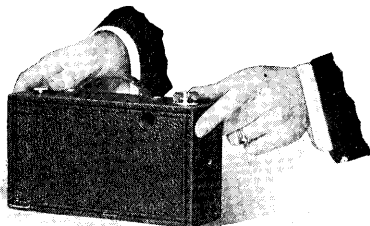
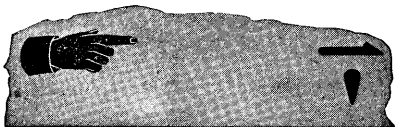

FIG. 1
FIG. 6
camera as shown in Fig. 1. The back of camera will loosen and may be allowed to drop down.
5. The camera is now to be closed, reversing the operation shown in Fig 1.
Turn the key to the left for about fifteen turns until an index hand appears before the little red window in back of camera, this hand is a warning that you are approaching Fig. 1, then turn key very slowly until Fig. 1 appears before the red window, (Fig. 6).